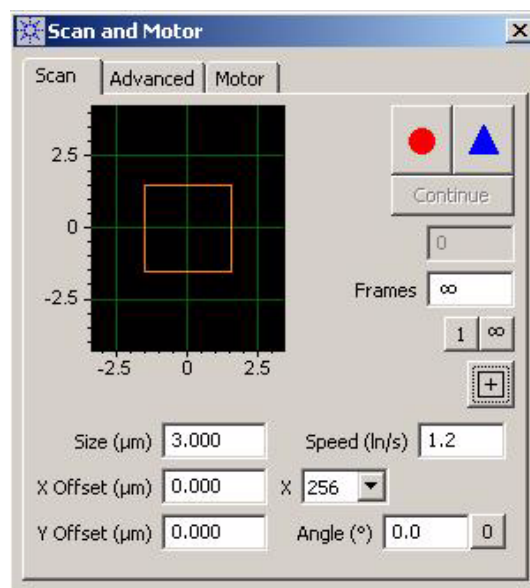

Figure 70 Scan and Motor window after scan has been initiated
- 20 In the **Scan and Motor** window, click the **Down** blue arrow to initiate a scan starting at the top of the grid. Click the **Up** blue arrow to initiate the scan from the bottom up (Figure 70). The image maps will begin to be rendered in the Realtime Images window.